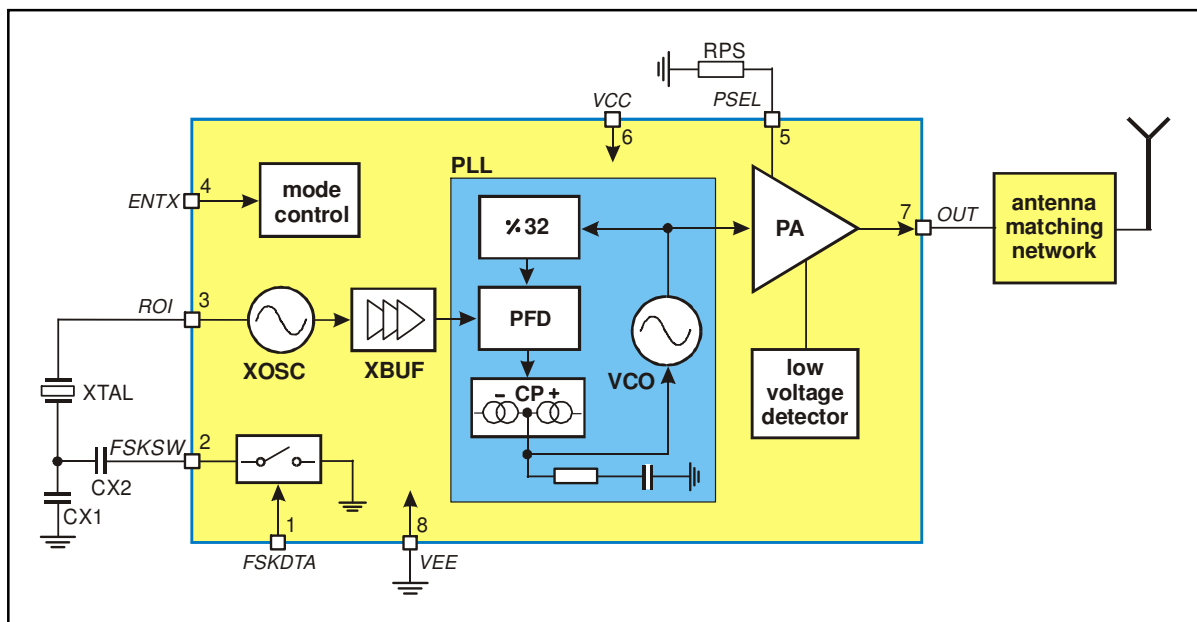

Fig. 1: Block diagram with external components
As depicted in Fig.1, the TH72001 transmitter consists of a fully integrated voltage-controlled oscillator (VCO), a divide-by-32 divider (div32), a phase-frequency detector (PFD) and a charge pump (CP). An internal loop filter determines the dynamic behavior of the PLL and suppresses reference spurious signals. A Colpitts crystal oscillator (XOSC) is used as the reference oscillator of a phase-locked loop (PLL) synthesizer. The VCO's output signal feeds the power amplifier (PA). The RF signal power P_{out} can be adjusted in four steps from $P_{out} = -12$ dBm to +11 dBm, either by changing the value of resistor RPS or by varying the voltage V_{PS} at pin PSEL. The open-collector output (OUT) can be used either to directly drive a loop antenna or to be matched to a 50Ohm load. Bandgap biasing ensures stable operation of the IC at a power supply range of 2.1 V to 5.5 V.